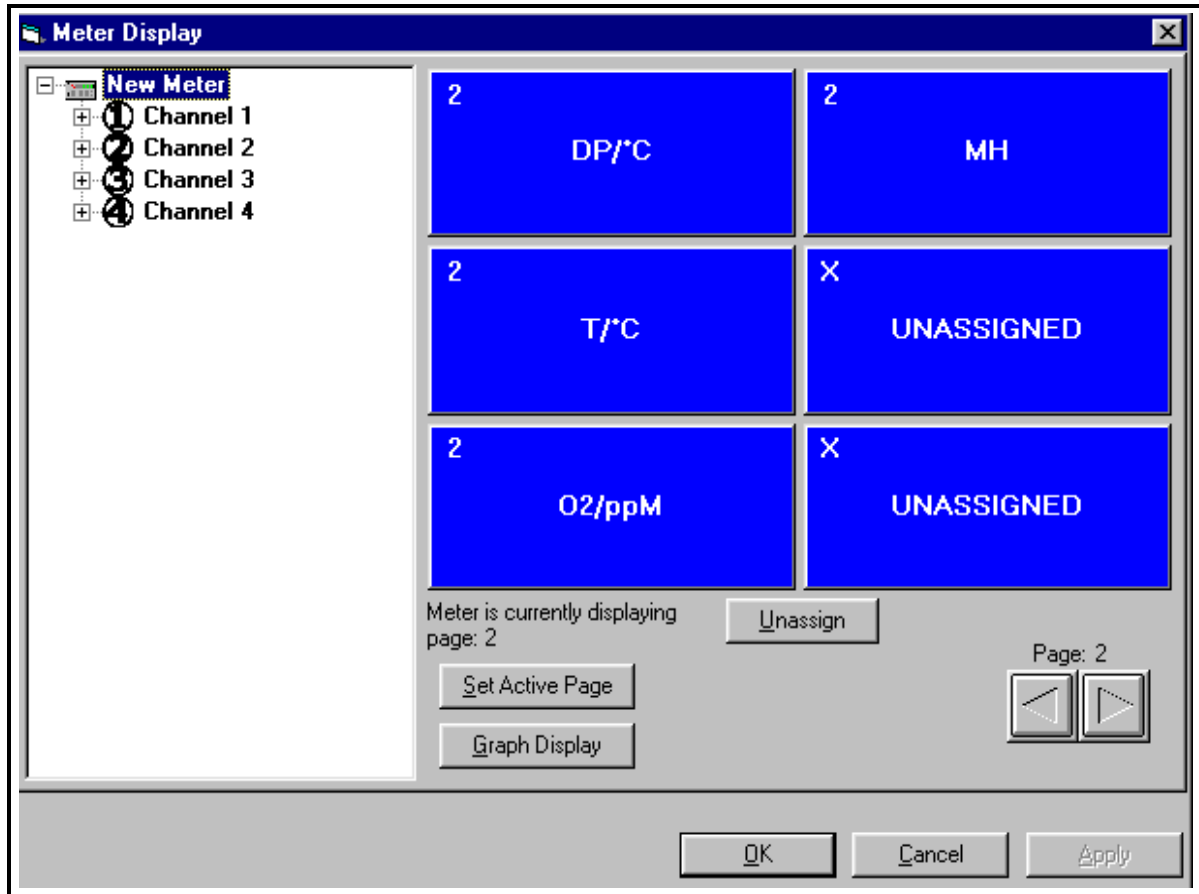
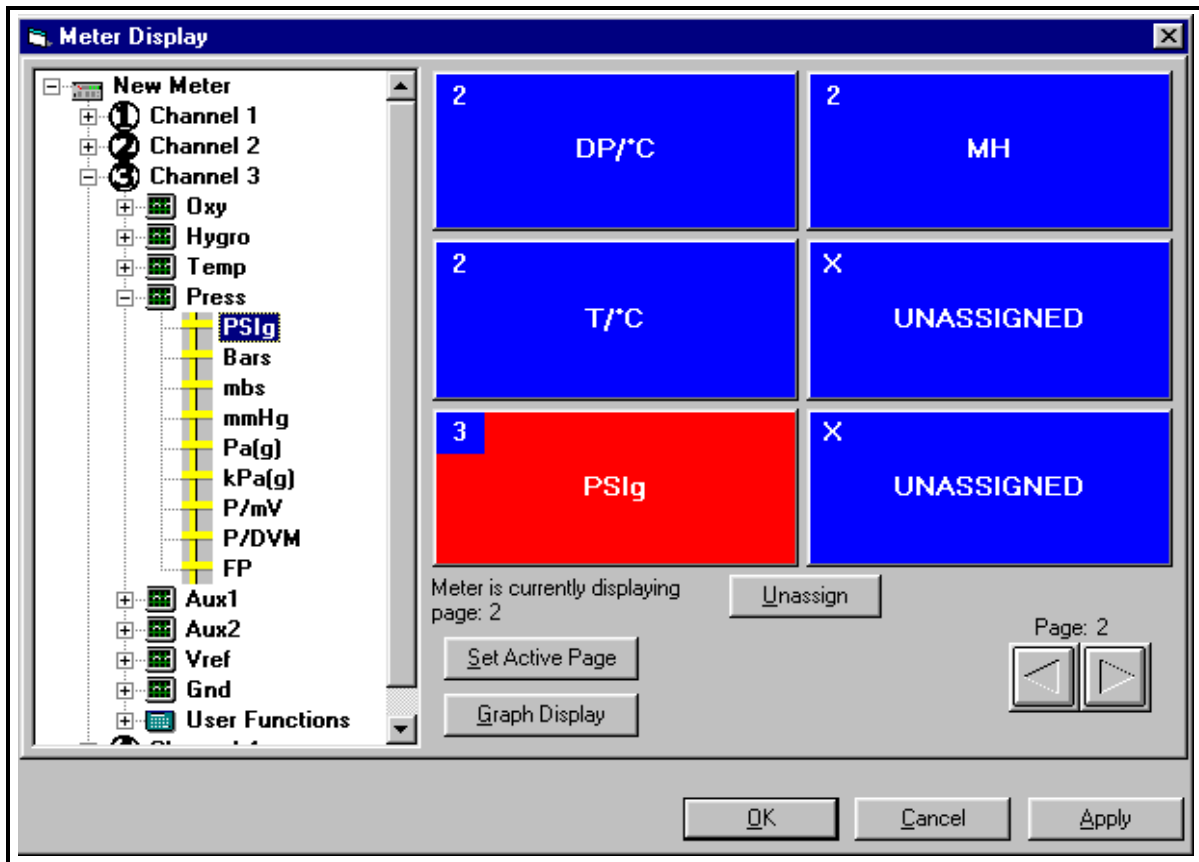

Figure 10: The Meter Display Window for a Series 1 Hygrometer
Figure 11: Matrix Display After Programming
4. Double-clicking on any page opens the “*Meter Display*” window. Figure 10 on the next page shows a typical window for a Series 1. Each individual blue window shows the mode and unit measured in the corresponding window on the meter page, with the assigned channel number in the upper left corner. A line below indicates which page the meter is currently displaying.
Figure 11 shows a typical change on the PC screen from O₂/ppm (shown in Figure 10) to PSi_g.